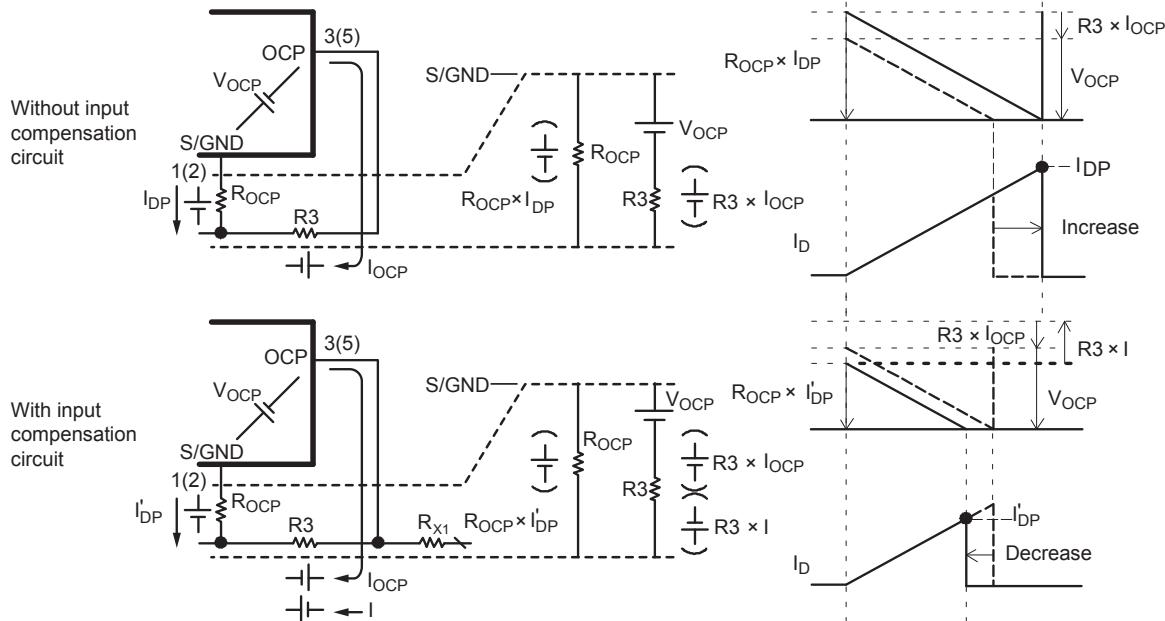

Figure 50. Compensated drain current waveforms
Without the input compensation circuit, as shown in the figure 50 upper panel, the overcurrent detecting voltage is equal to the sum of the Overcurrent Protection Threshold Voltage, $V_{OCP} = -0.60$ V, and the voltage across $R3$ from the OCP pin source current, $I_{OCP} = -40 \mu A$.
In the converse situation, with the input compensation circuit, as shown in the figure 50 lower panel, the overcurrent detecting voltage is equal to the sum of the Overcurrent Protection Threshold Voltage, $V_{OCP} = -0.60$ V, the voltage across $R3$ from the OCP pin source current, I_{OCP} , and the voltage across $R3$ from the input Compensation Current, I :
1. The overcurrent detecting peak drain current, $I_{DP(OCP)}$, without the input compensation circuit, is expressed by the following, based on equation 6, from figure 50, upper panel:
2. On the other hand, the overcurrent detecting peak drain current, $I'_{DP(OCP)}$, with the input compensation circuit, is expressed by the following, based on equation 7, from figure 50, lower panel: